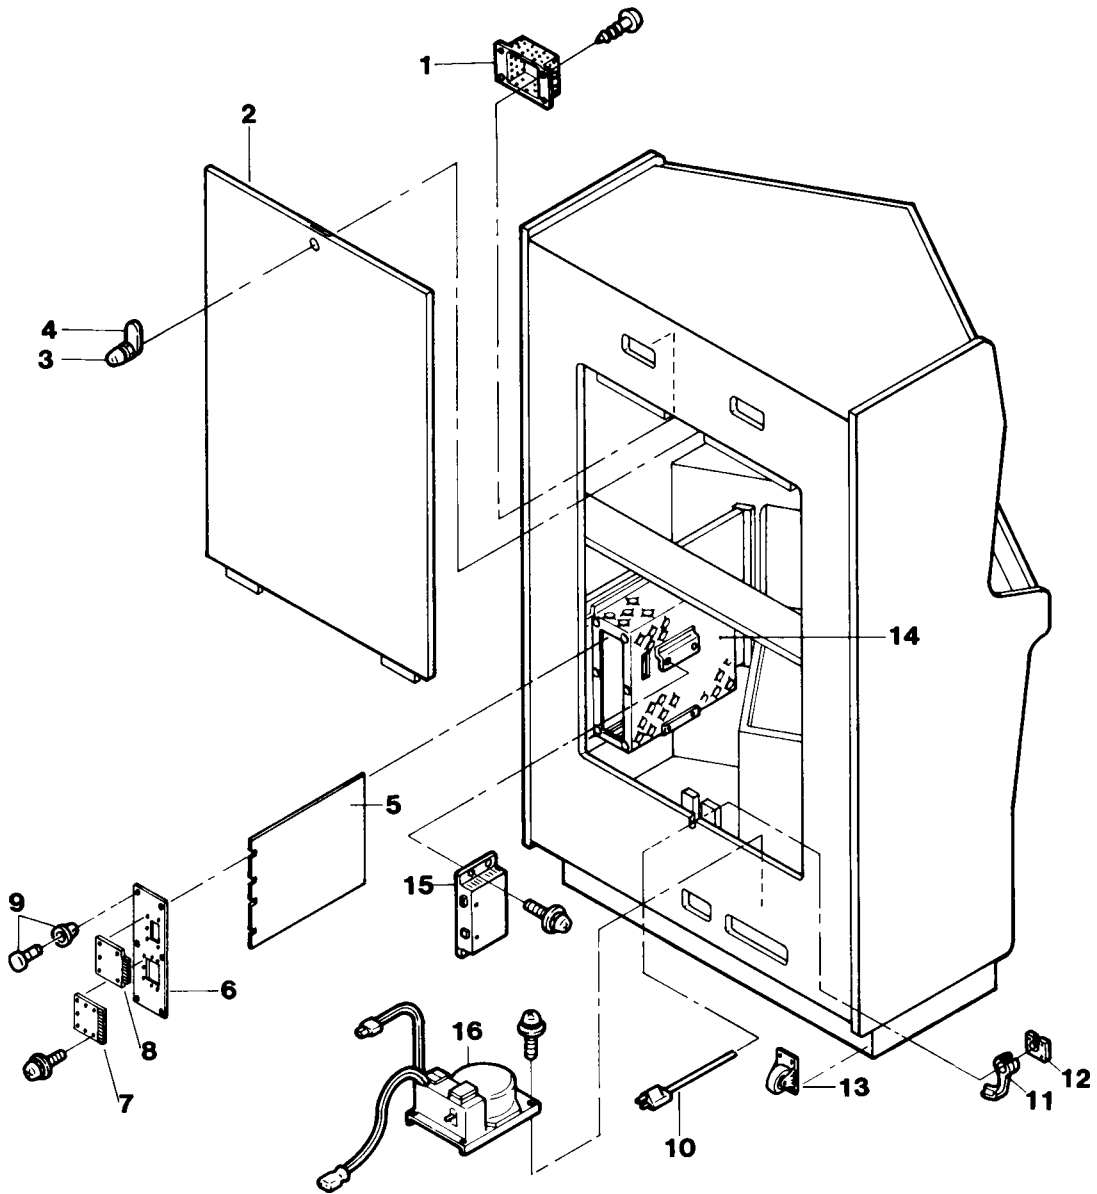

Fig. 10
A. Body Parts, continued – See Figure 10